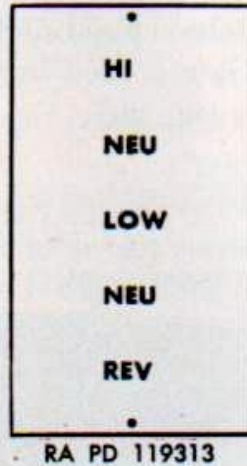

Figure 27. Power-take-off shifting diagram.
a. DESCRIPTION. Some trucks of all models have a worm drive, jaw-clutch drum winch mounted at the front. Winch is mounted on support brackets attached to frame-side-rail extensions (fig. 132). Power for operation of winch is obtained through a drive shaft (fig. 92) extending from power-take-off front out-put shaft to winch worm shaft. The power-take-off has "HIGH," "LOW," and "REVERSE" speeds with "NEUTRAL" points between (fig. 27).
“HIGH,” “NEUTRAL,” “LOW,” “NEUTRAL,” and “REVERSE” (fig. 27). A shifting lever lock hinge (fig. 16), adjacent to the power-take-off shifting lever, is notched to hold power-take-off in neutral. This hinge should always be down when winch is not in use.
- (c) Make sure power-take-off shifting lever is in "NEUTRAL" position (fig. 27).
- (c) Start truck engine, depress clutch pedal, and move power-take-off shifting lever to "LOW" for heavy load or to "HIGH" for light load (fig. 27). If in doubt, use "LOW." Release truck clutch pedal.
- (3) *Stopping winch.* Depress truck clutch pedal and shift power-take-off to "NEUTRAL" (fig. 27). Release clutch pedal.
- (4) *Lowering load or unreeling slack rope.* Depress clutch pedal and shift power-take-off to "REVERSE" (fig. 27). Release clutch pedal.
- (b) Depress clutch pedal and shift power-take-off to "LOW" (fig. 27). Release clutch pedal. The winch will pull the truck forward, thus winding rope on drum. A very light pressure on the truck brake pedal by the operator, while winding ropes, will insure a tight and neat wind.